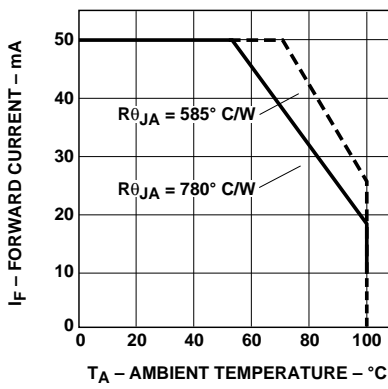

Figure 4. Maximum Forward Current vs. Ambient Temperature for 5 mm Lamps. Derating Based on $T_{JMAX} = 130^\circ\text{C}$.
1. Derate linearly as shown in Figure 4.